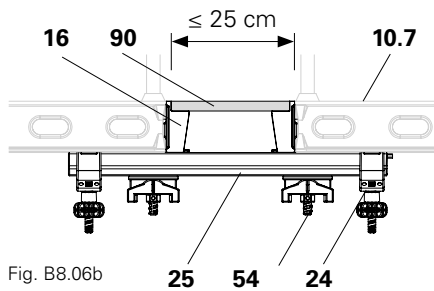

Fig. B8.06b
4. Guide the tie through the tie points of the panel (**54**). (Fig. B8.06b + B8.06c)